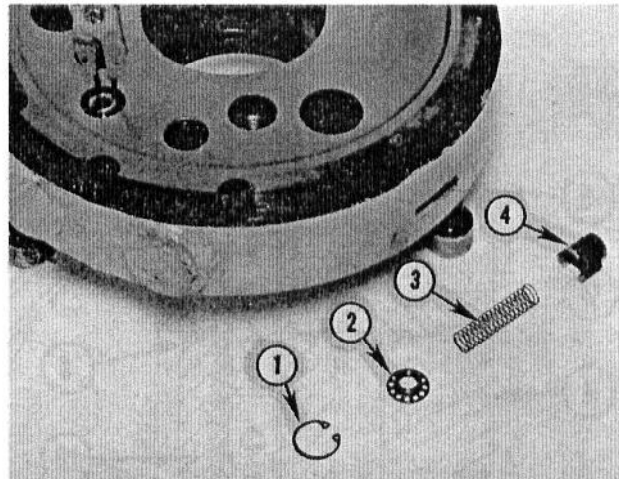

Fig. 32 — Removing/Installing Anti-Cavitation Poppets*
b. Remove snap ring, retainer, spring and anti-cavitation poppets, see Fig. 32.